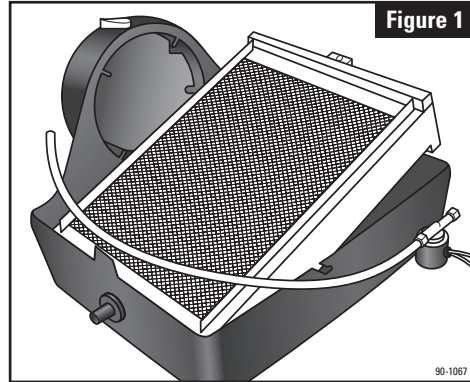
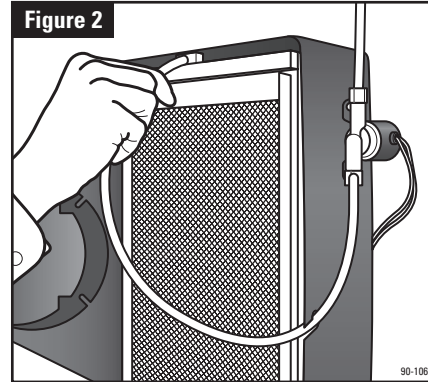

Figure 1
Figure 2
1. Press top & bottom tabs to remove cover (1). Pull feed tube (3) out of distribution tray (4). Remove Water Panel® Evaporator assembly. See Figure 1.
2. Humidifier is supplied with bypass duct connection on left. For right side bypass, swap location of drain spud (9) and cap (10). Twist to remove spud and cap.
4. Place humidifier base (2) in opening and secure with 6 screws in openings provided.
6. Insert Water Panel Evaporator assembly into base. Make sure bottom of scale control insert (6) is in drain spud. Snap top of evaporator assembly into base.
- Insert feed tube into distribution tray. See Figure 2. Rotate nameplate (11) if necessary, so it is right side up. Place point bypass damper handle (8) to "WINTER" (open) for heating season and "SUMMER" for cooling season.